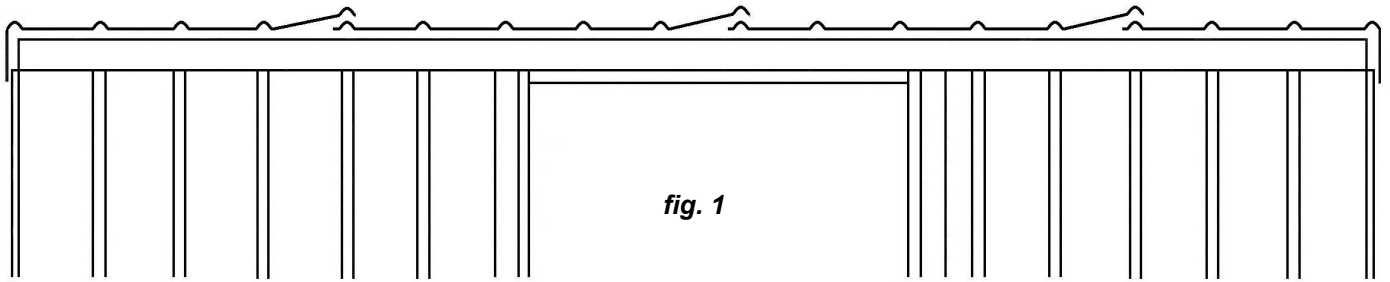

fig. 1
Step 1: Select one End Base Plate 1.690m (Green), one End Top Plate 1.690m (Red) and two Studs (Yellow). Lay out on flat surface and nail together using two 75mm nails per join (**fig. 1**). Repeat with the other end frame.
Step 1: Door Jambs: Position left hand Door Jamb Flashing at correct measurement from left (**cladding detail**) and nail to Top Plate using a 30mm clout. Do not fit 50mm nails at this stage. Pre-drill holes to make nailing easier (**fig. 1**).
Step 5: Drill a hole through Door Jamb Flashings and Wall Sheets top and bottom. Nail with 50mm nails (**fig. 1**).
Nail left hand Door Jamb Flashing to Stud using three 30mm Clouts at equal spacings (**fig. 1**). Beside each 30mm Clout, rivet Door Jamb Flashing to Rib. Repeat with right hand Door Jamb Flashing.
Standard Roof: Position Roof Sheets as shown in **fig 1**. Make sure sheet joins at the back are flush. Rivet sheet joins, one rivet 200mm back from edge front and back. Fit two more rivets evenly spaced in centre of each join.
Step 2a: Position Roof Sheets as shown in **fig.1**. When fitting Clear Panel ensure it OVERLAPS Roof Sheets. Rivet sheet joins, approx. 200mm and 600mm from each end-front and back.